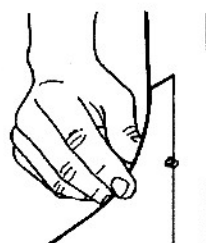

Fig. 12
20. Insert a Phillips head screw (22) through an end and side panel, as shown in Fig. 12. The screw head should be on the outside.